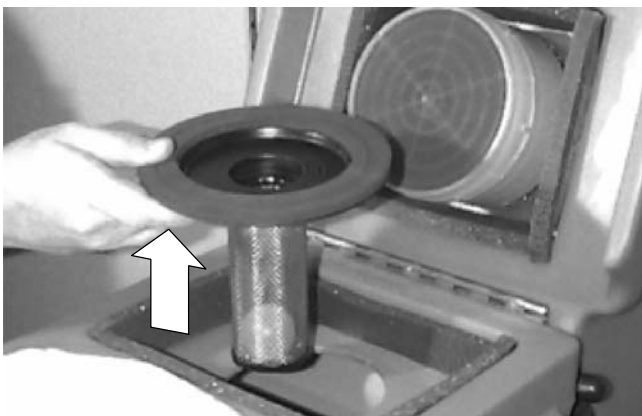

FIG. 15
3. Clean ball float screen inside tank after every use. Lift float screen assembly out of tank (Figure 15). Be certain to replace screen securely .